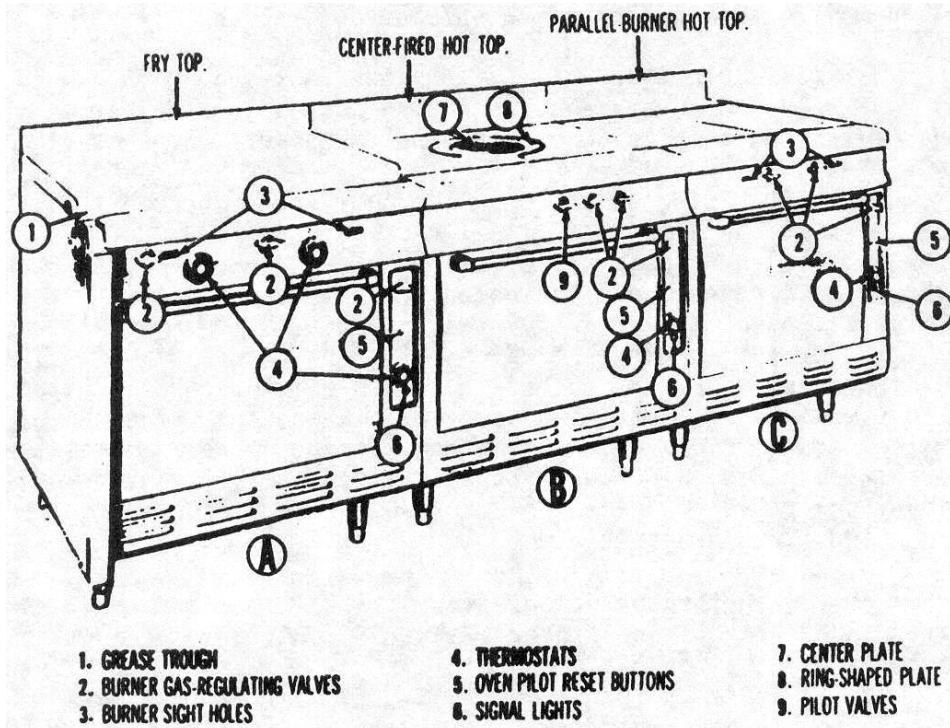

Figure 8. Gas ranges with fry and hot tops.
10. **HEAVY-DUTY GAS RANGE.** This range is a gas-fired unit composed of a top cooking surface and an oven (fig. 8). The range may have four open-top burners, a hot top, or a fry top. The open-top range has four direct-flame burners with cast steel grids that support pots and pans directly over the flames. The hot-top range has several burners covered by a heavy cast steel cooking plate. The burners on the fry-top range are covered by a heavy cast-steel griddle with one or more grease troughs; the griddle surface is shaped so that excess grease will drain toward the trough and then into a removable grease tray. The range oven has a bottom-hinged door and an adjustable, removable shelf. The heat control knobs are located on the front panel of the range. Each top and oven burner has a gas-regulating valve, a gas orifice, and an air shutter. The oven burner pilot has a special safety valve that automatically shuts off the oven gas supply whenever the pilot light is out. The heavy-duty gas range operates on natural, manufactured, or liquefied petroleum (LP) gas.